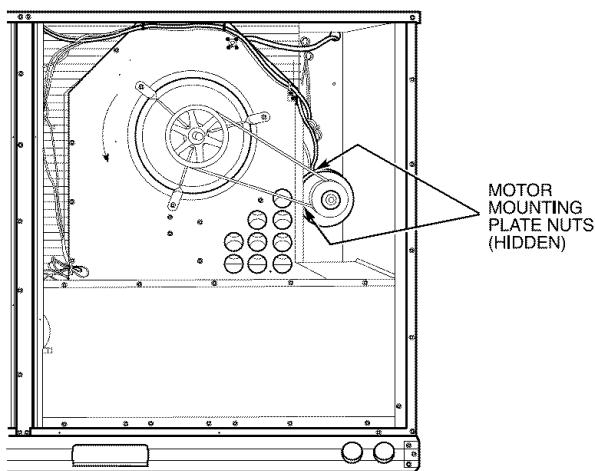

Fig. 39 — Typical Belt-Drive Motor Mounting for Size 012
- Size 012* — Slide the motor mounting plate downward to tighten belt tension ($\frac{1}{2}$ -in. deflection with 5 to 10 lb of force). Secure the motor mounting plate nuts. See Fig. 39.